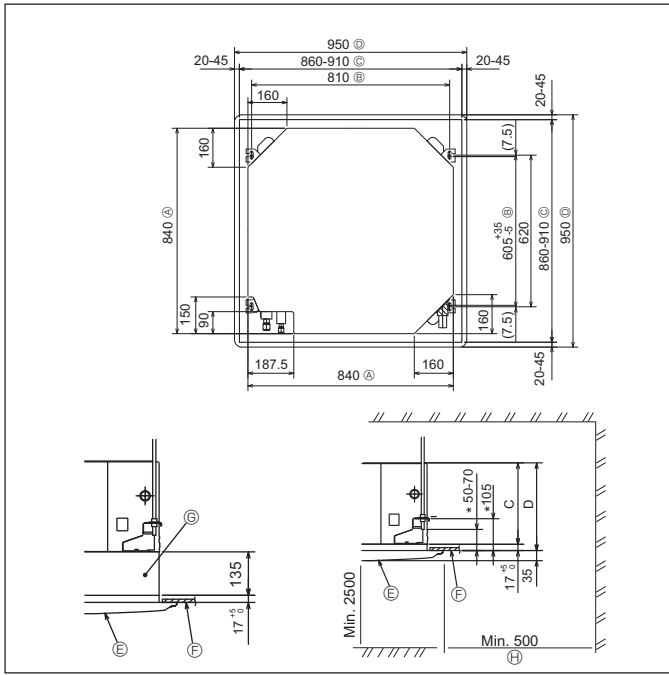

Fig. 2-2
## 2.2. Ceiling openings and suspension bolt installation locations (Fig. 2-2)
- The dimensions of ceiling opening can be regulated within the range shown in Fig. 2-2; so center the main unit against the opening of ceiling, ensuring that the respective opposite sides on all sides of the clearance between them becomes identical.